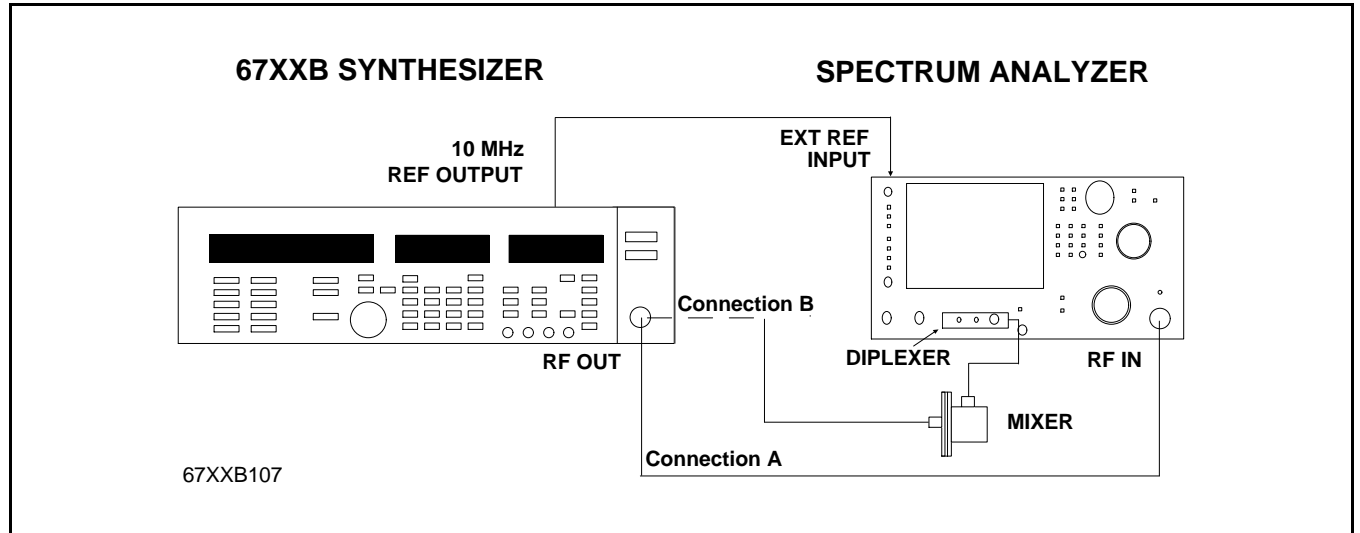

Figure 2-7. Equipment Setup for Harmonic Test: RF Output Signals From 11 to 20 GHz
1. Connect equipment as shown in Figure 2-7.